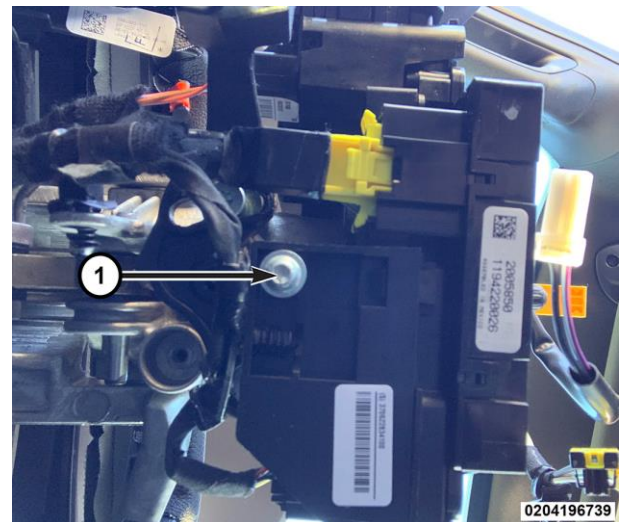

Figure 13 – SCCM Screw
25. Remove the screw (1) (Figure 13).